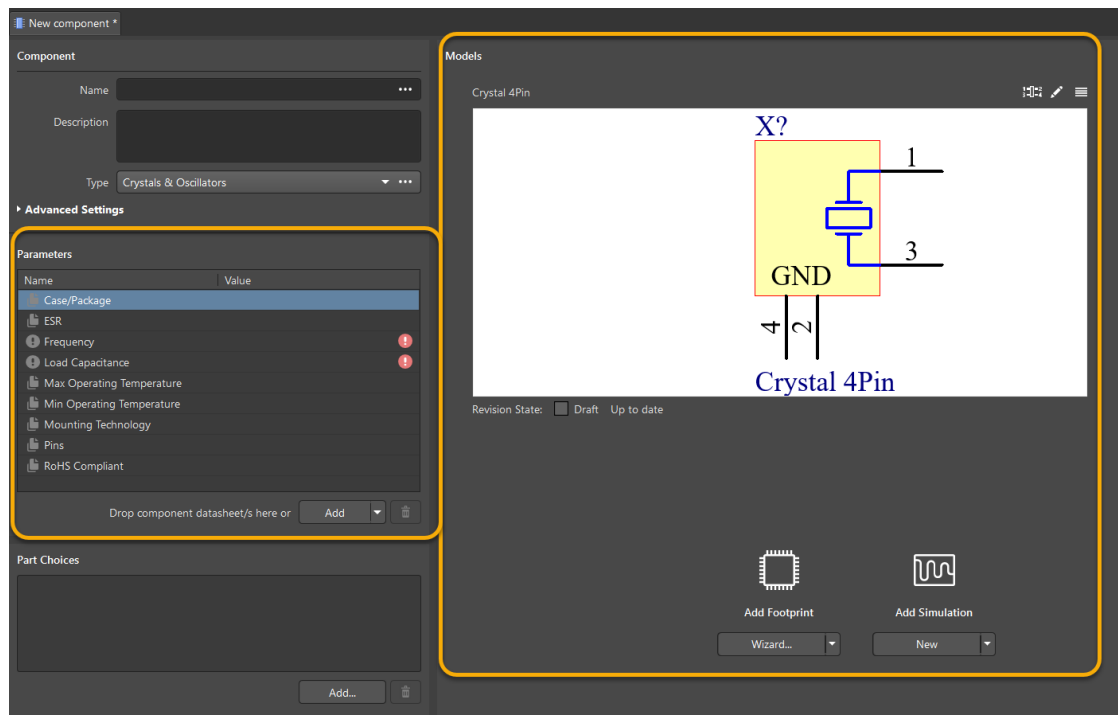

Figure 4. Component Editor
6. If a component template is linked to the component type, the information will be shown in the *Parameters* section. If the template has predefined symbols and footprints, these will also show here. See Figure 4 below.